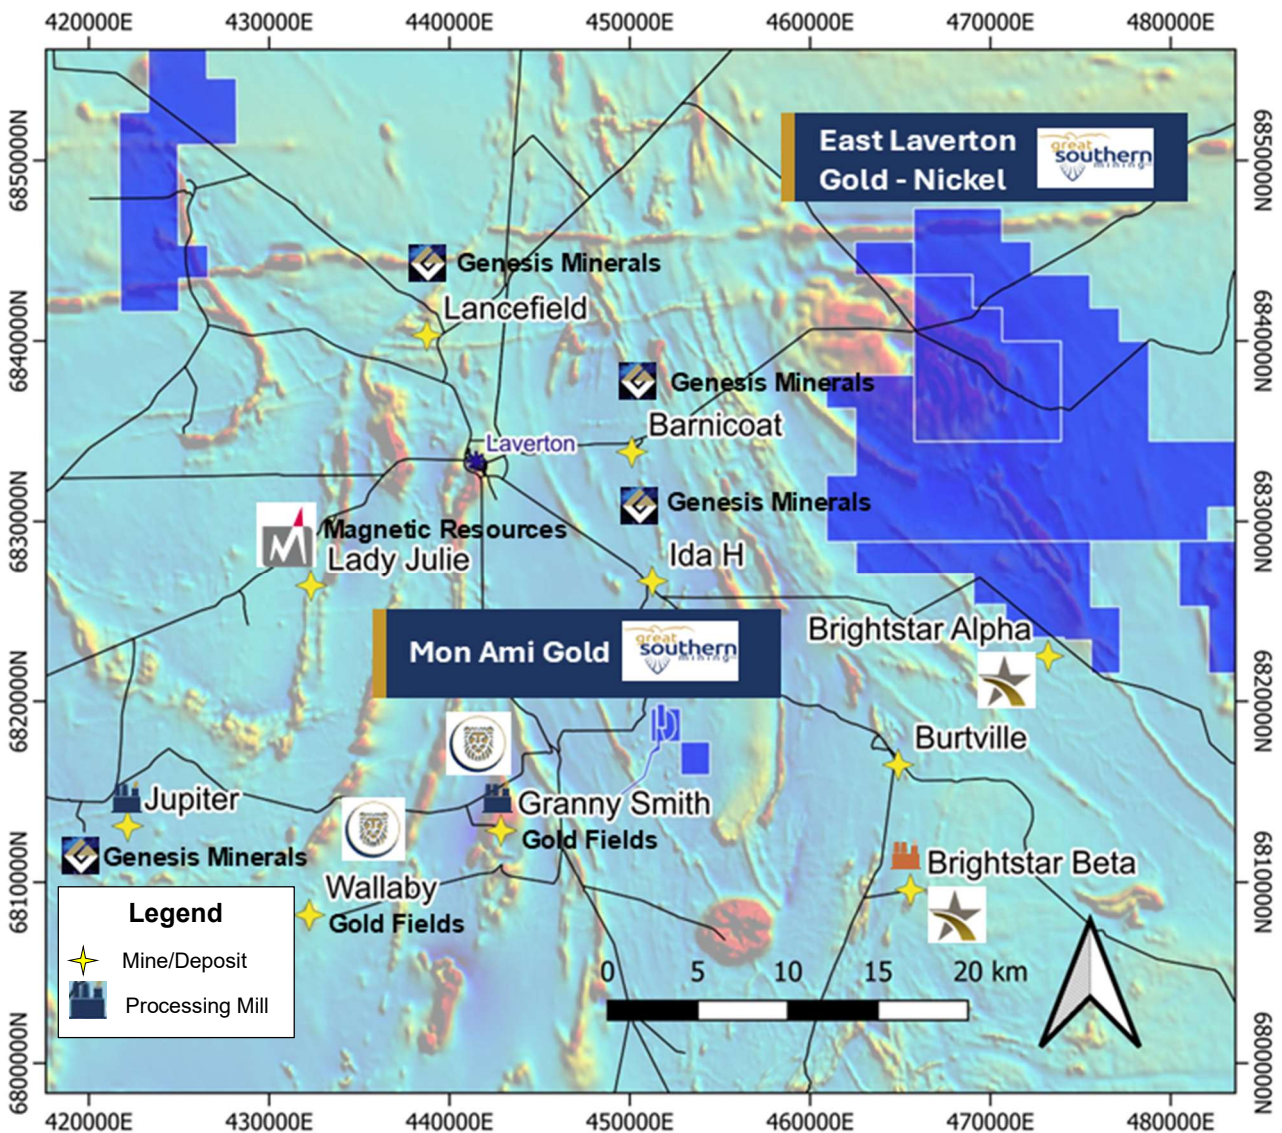

Figure 1. Mon Ami Project (blue shading) showing proximity to significant gold deposits and operating gold processing facilities.
- **GSN considers the most applicable analogue for the depth potential of Mon Ami to be the Ida H deposit (owner Genesis Minerals)**, located just 8km north of Mon Ami (Figure 1) along the Barnicoat Shear. The Ida H deposit was one of the highest-grade mines in the Laverton District and produced 229,900t at 22.6 g/t Au for 170,650 oz in the early 1900's from underground mining down to ~450m vertical depth
Great Southern Mining Limited (the Company) (ASX: GSN) is pleased to provide an update on the Company's 100% owned Mon Ami Gold Project (Mon Ami), located 17km south-east of Laverton and 10km north-east of the +2Moz Granny Smith gold mine in Western Australia (Figure 1).
GSN considers the most applicable analogue for the depth potential of Mon Ami to be the Ida H deposit, located just 8km north of Mon Ami (Figure 1) along the Barnicoat Shear. Ida H was one of the highest-grade mines in the Laverton District and produced 229,900t at 22.6 g/t Au for 170,650 oz in the early 1900's3 from underground mining down to ~450m vertical depth. Similar to Mon Ami, Ida H mineralisation is hosted in pinching and swelling quartz-sulphide veins plunging in a northern direction within the Barnicoat Shear zone.